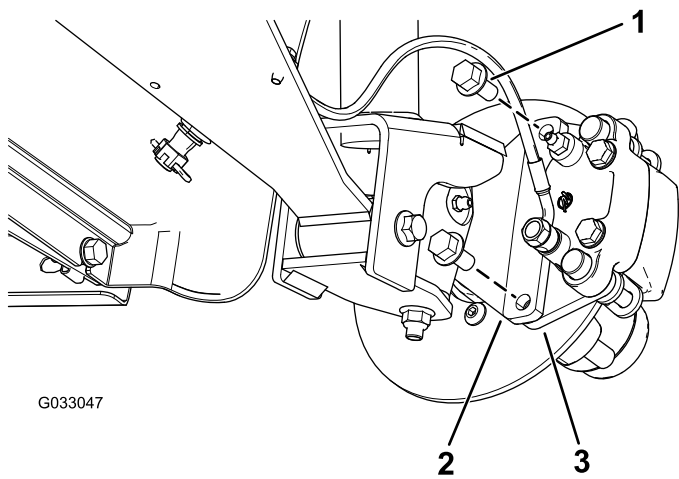
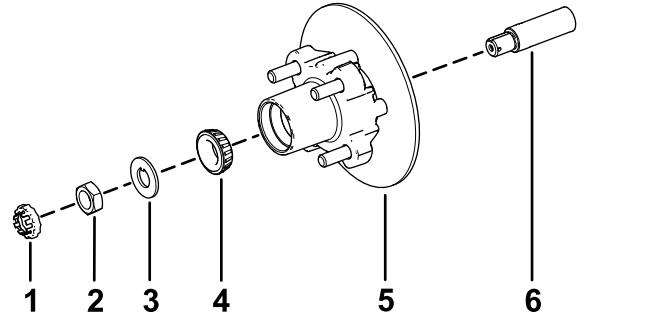

Figure 30
Figure 34
3. Remove the flange-head bolts (3/8 x 3/4 inch) that secure the bracket for the brake assembly to the spindle and separate the brake from the spindle (Figure 30).
1. Apply a light coat of the specified grease to the spindle (Figure 34).
2. Assemble the hub and rotor onto the spindle with the rotor inboard (Figure 34).
3. Assemble the outboard bearing onto the spindle and seat the bearing to the outboard race (Figure 34).
4. Assemble the tab washer onto the spindle (Figure 34).
5. Thread the spindle nut onto the spindle and tighten the nut to 15 N·m (11 ft-lb), while rotating the hub to seat the bearing (Figure 34).
2. Align the brake pads to either side of the rotor (Figure 30) and the holes in the caliper bracket with the holes in the brake mount of the spindle frame (Figure 34).
3. Secure the caliper bracket to the spindle frame (Figure 30) using the 2 flange-head bolts (3/8 x 3/4 inch).